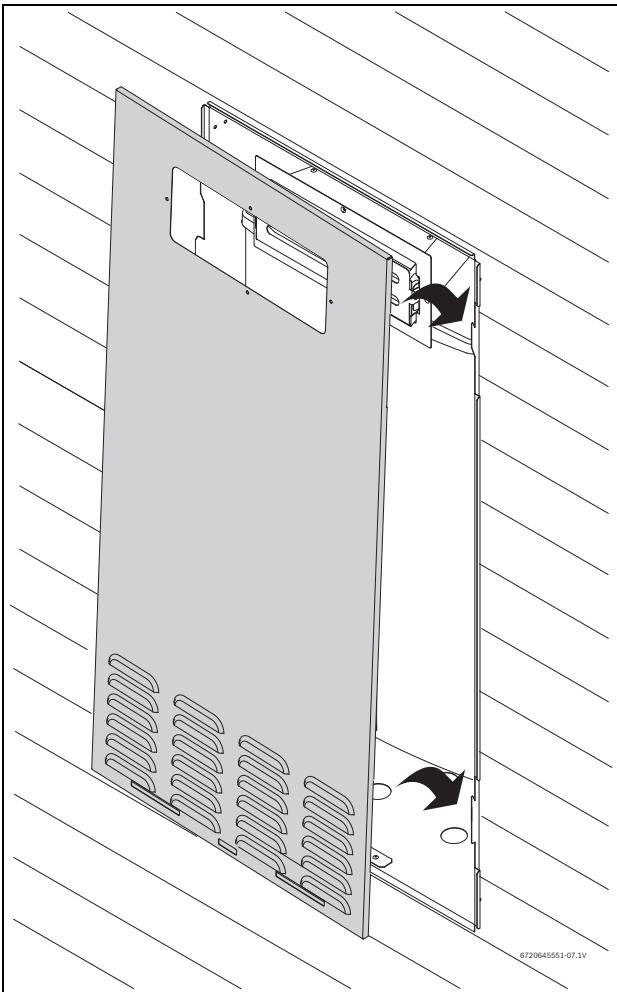

Fig. 17
- Position the recess box cover as shown in Fig. 17.